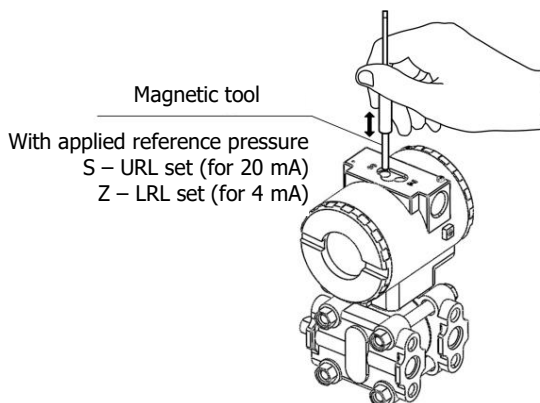

Figure 6.1. Location of Z (zero) and S (span) controls, local configuration
- remove the top cover and insert magnetic tool into hole Z or S (Figure 6.1);